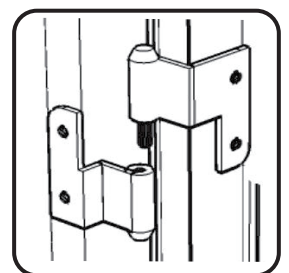

Figure 7
Attach Doors (Q) and (R) by sliding door lift hinges into side panel lift hinges. (See Figure 7)